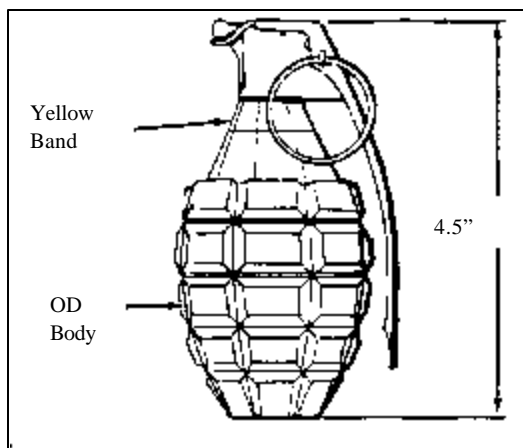
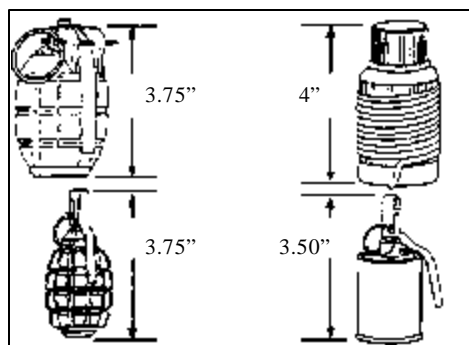

Figure 61. U.S. Frag grenades.
Figure 62. Frag grenades.
- (1) Frag grenades are the most common type of grenade and may be used as offensive or defensive weapons. See Figure 61 and Figure 62. They have metal or plastic bodies that hold an explosive filler. These grenades produce casualties by high-velocity projection of fragments when they blow up. The fragmentation comes from the metal body or a metal fragmentation sleeve that can be internal or attached to the outside of the grenade. These grenades use a burning delay fuze that functions 3 to 5 seconds after the safety lever is released.